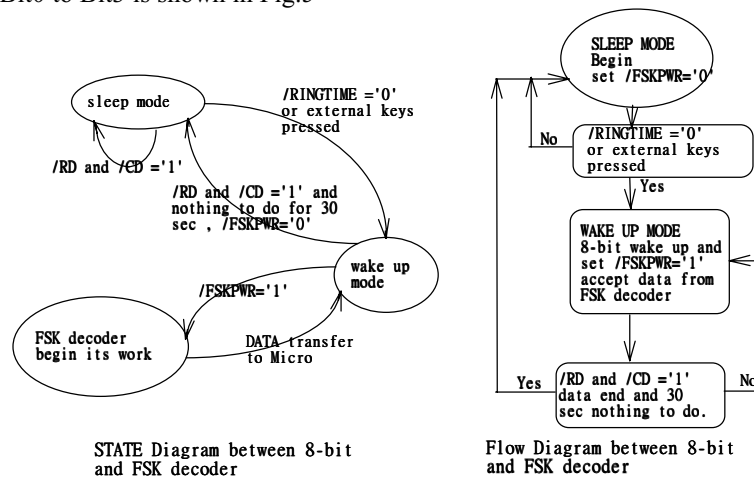

Fig.5 The relation between Bit0 to Bit3.
- * See the configuration of the data memory in Fig. 5.
* The relation between Bit0 to Bit3 is shown in Fig.5